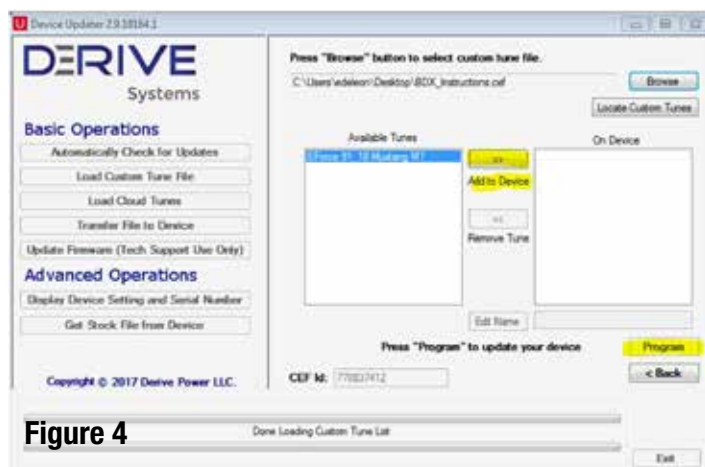

Figure 4
9. Once the file is located, highlight the supercharger calibration (EForce) and select ADD TO DEVICE. Then click PROGRAM to complete the transfer. (Figure 4)